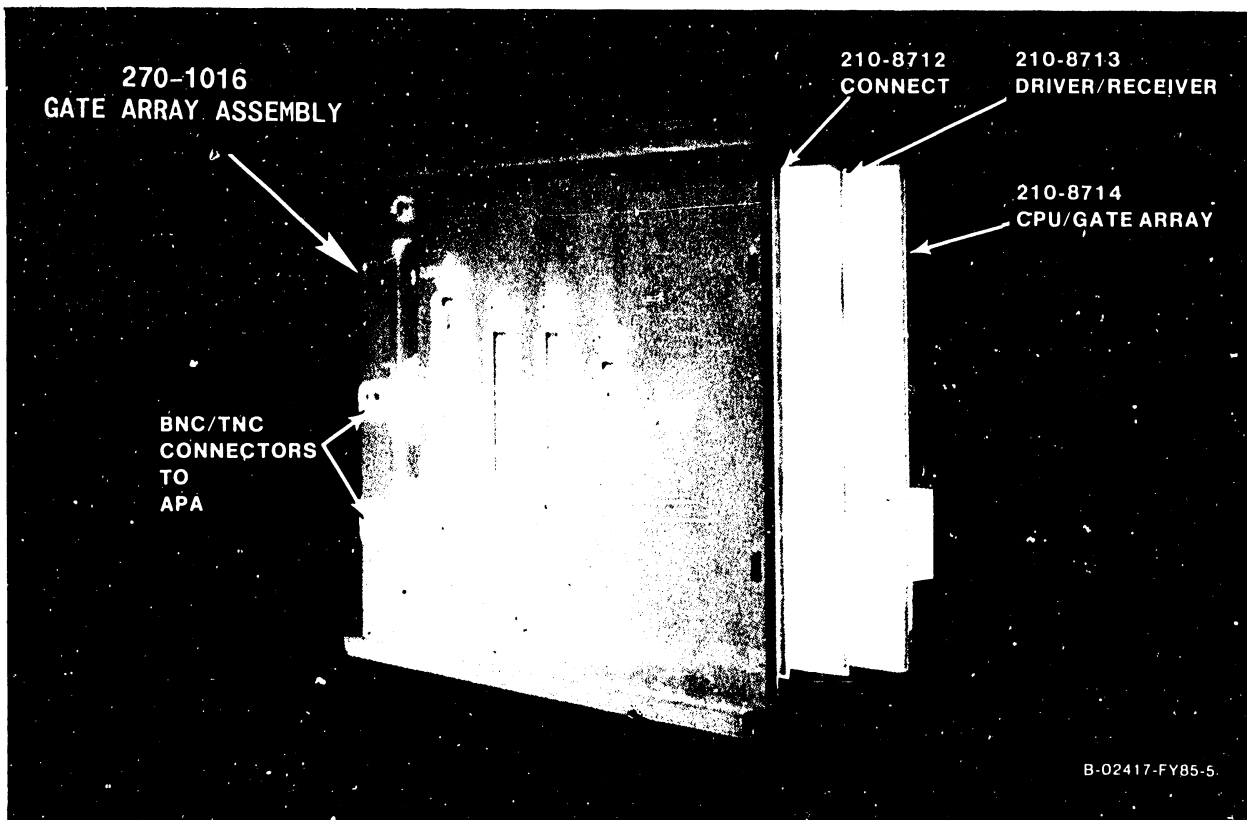

Figure 5-26. 270-1016 6550 Gate Array TC Back Panel Assembly
2. Figure 5-26 shows the Gate Array TC back panel assembly, figure 5-27 shows the 210-8714 CPU/Gate Array board, and figure 5-28 shows one CPU/Gate Array board with cabling. Power cabling is not daisy-chained to a second Gate Array back panel assembly.